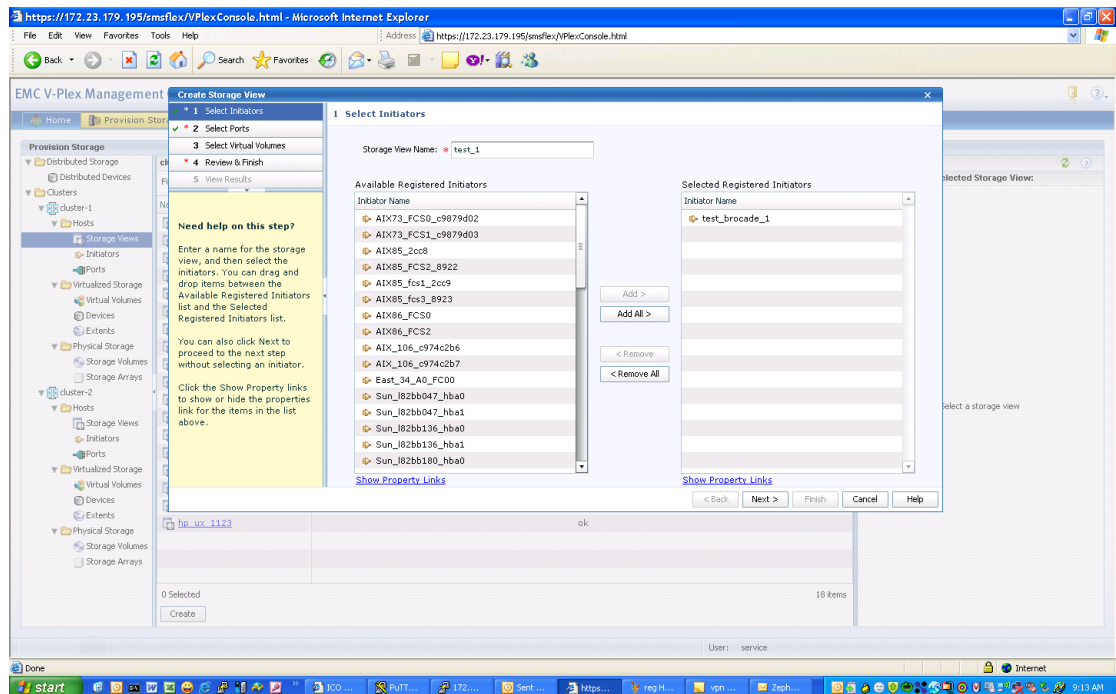

Figure 75 Create storage view
1. Creating a storage view, as shown in Figure 75.